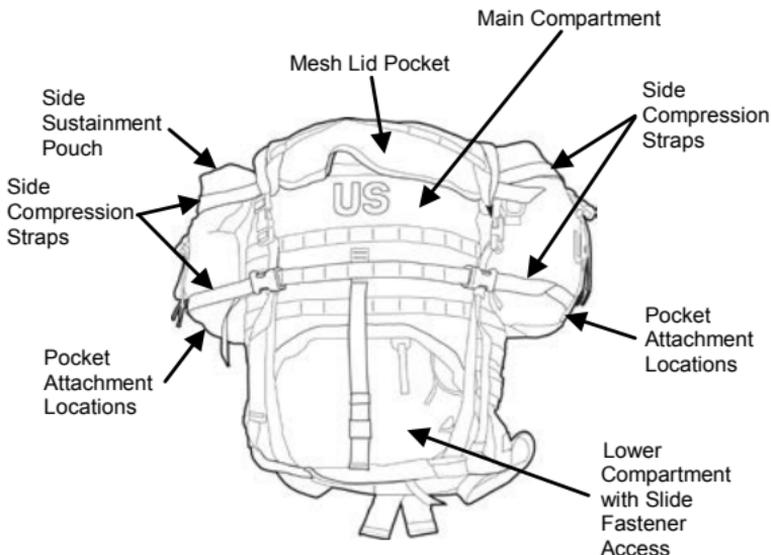

Figure 13. Large Pack with Side Sustainment Pouches.
1. Place the large pack (Figure 13) face down on level surface.
12. Continue securing side compression straps (Figure 13) and rolled tabs down the side of the frame.